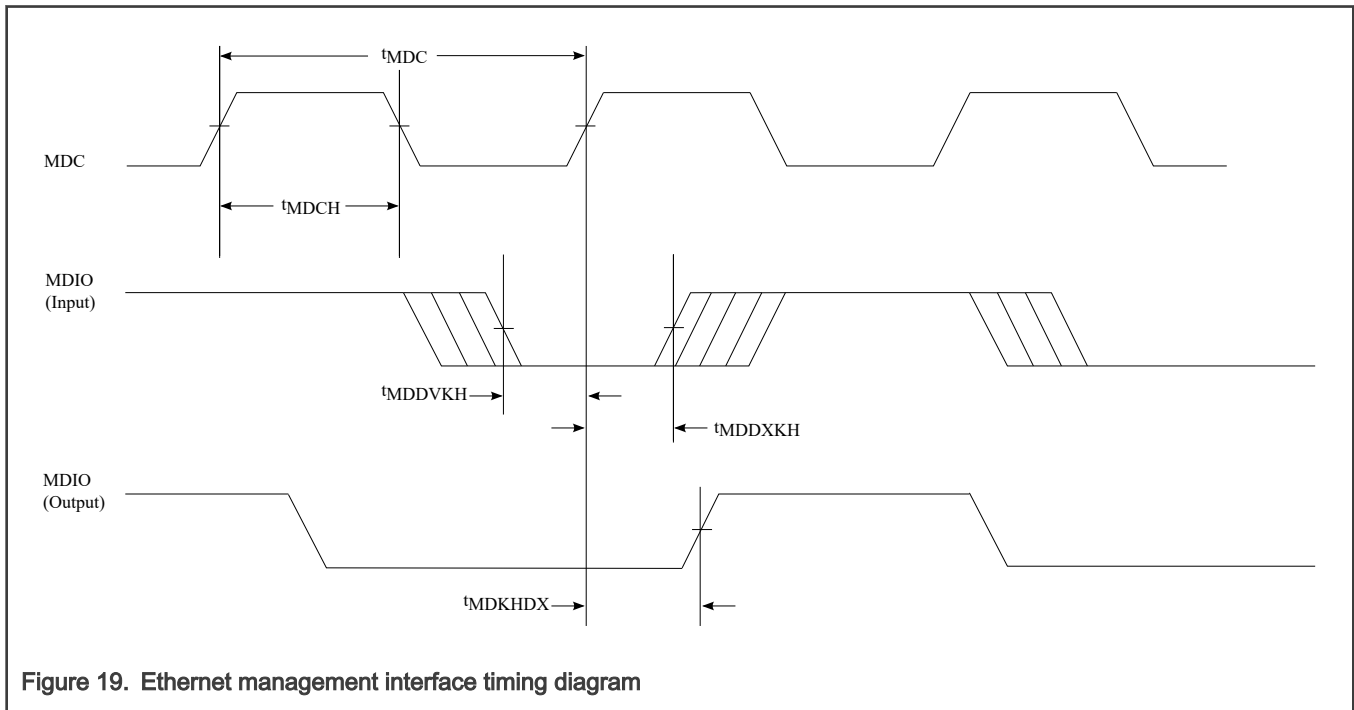

Figure 19. Ethernet management interface timing diagram
4. The symbols used for timing specifications follow these patterns:  $t_{(first\ two\ letters\ of\ functional\ block)(signal)(state)(reference)(state)}$  for inputs and  $t_{(first\ two\ letters\ of\ functional\ block)(reference)(state)(signal)(state)}$  for outputs. For example,  $t_{MDKHDX}$  symbolizes management data timing (MD) for the time tMDC from clock reference (K) high (H) until data outputs (D) are invalid (X) or data hold time. Also,  $t_{MDDVKH}$  symbolizes management data timing (MD) with respect to the time data input signals (D) reach the valid state (V) relative to the tMDC clock reference (K) going to the high (H) state or setup time.
6. See Figure 19.